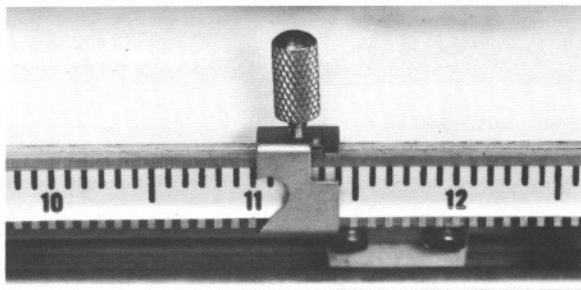

Figure 64
9. Place a **cut-off stop** on the margin scale as shown in Figure 64, at position located in Step 8 (it will not be the same position as shown in the picture).